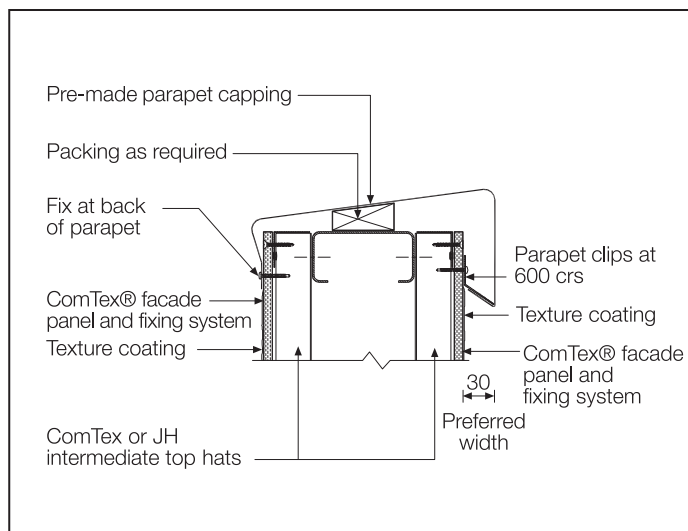

FIGURE 25 PARAPET CAPPING DETAIL
2. Provide a drip edge at least 30mm out from the facade face. (see Figure 25 and 43).